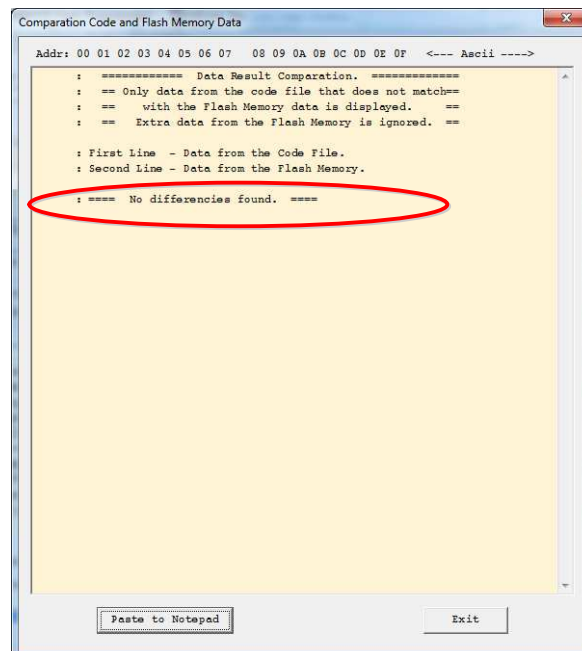

Figure 20. Code Comparison Report
- Click on **View** → **Compare Code File and Flash Data**. Select "Yes" when prompted to read the data from the device first. After running the execution, **check the last line of the "Comparison Code and Flash Memory Data" window** (see Figure 20) for the message "==== No differences found. ====" [sic].